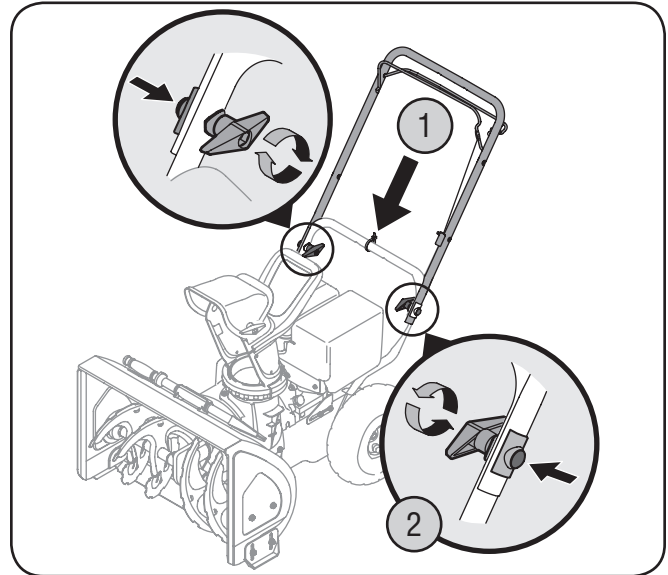

Figure 3-2
4. Lift the upper handle up and position it over the lower handle, aligning the holes where the wing knobs were removed (1). See Figure 3-2.
5. Insert a carriage screw from the outside through a handle tab, the upper and lower handles, a saddle washer and into the wing knob (2). Repeat on the other side.
6. Tighten the wing knobs on each side of the handle. Refer to Figure 3-2.